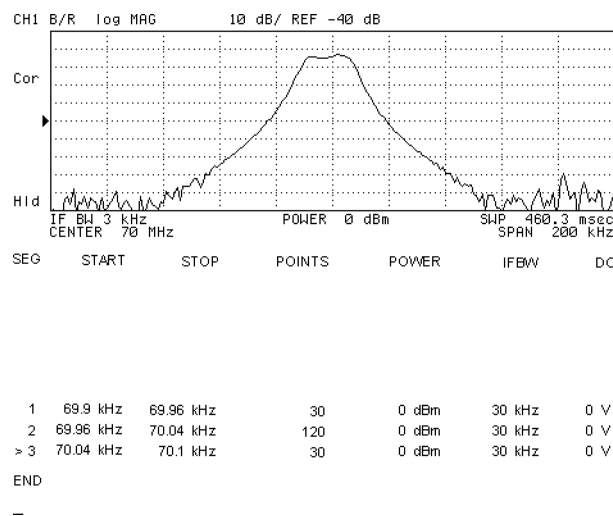
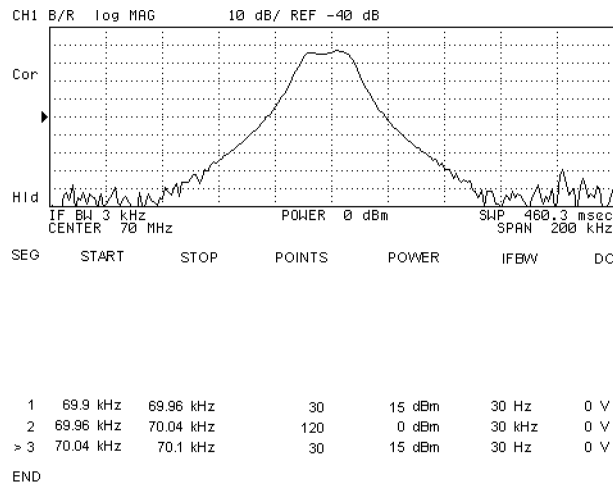

Figure 9-3. Sweep List Edit Display
Figure 9-5. Dynamic Range Enhancement
Figure 9-5 shows the sweep list modified from the list of the previous example (Figure 9-3) to improve dynamic range. Segments 1 and 3 have a narrow IF bandwidth and a higher power level for the stopband of the filter. Segment 2 has a wide IF bandwidth and lower power level for passband.
4. To modify segments 2 and 3, see Figure 9-5 for the values and modify them in a manner similar to steps 2 and 3.